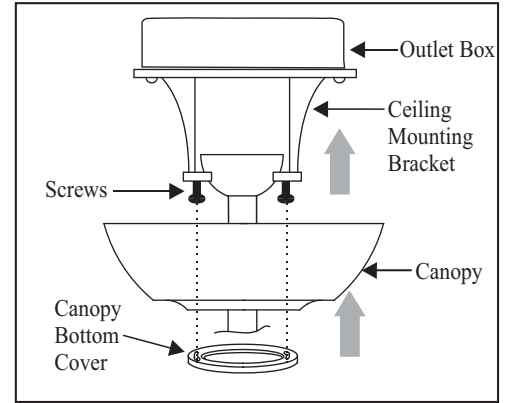

Figure 10
2. Slide the canopy up to ceiling and over the 2 screws on the hanger bracket. Rotate canopy clockwise. Next, while holding the canopy with one hand, slide the canopy cover over the screws and rotate clockwise until tight. **Note:** adjust the canopy screws as necessary until the canopy and canopy cover are snug. (Fig. 10)